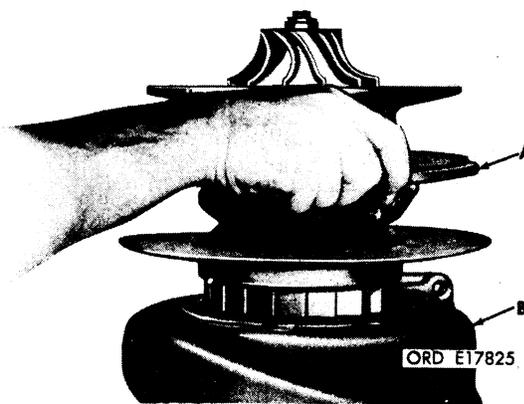

FIGURE 20. REMOVING BEARING HOUSING ASSEMBLY AND RELATED PARTS - TURBOCHARGERS 7748900 AND 10935279.
- (3) Refer to figure 20. Lift bearing housing assembly and related parts (A) from turbine housing (B). If tight, insert two screwdrivers on opposite sides between bearing and turbine housings and pry upward.